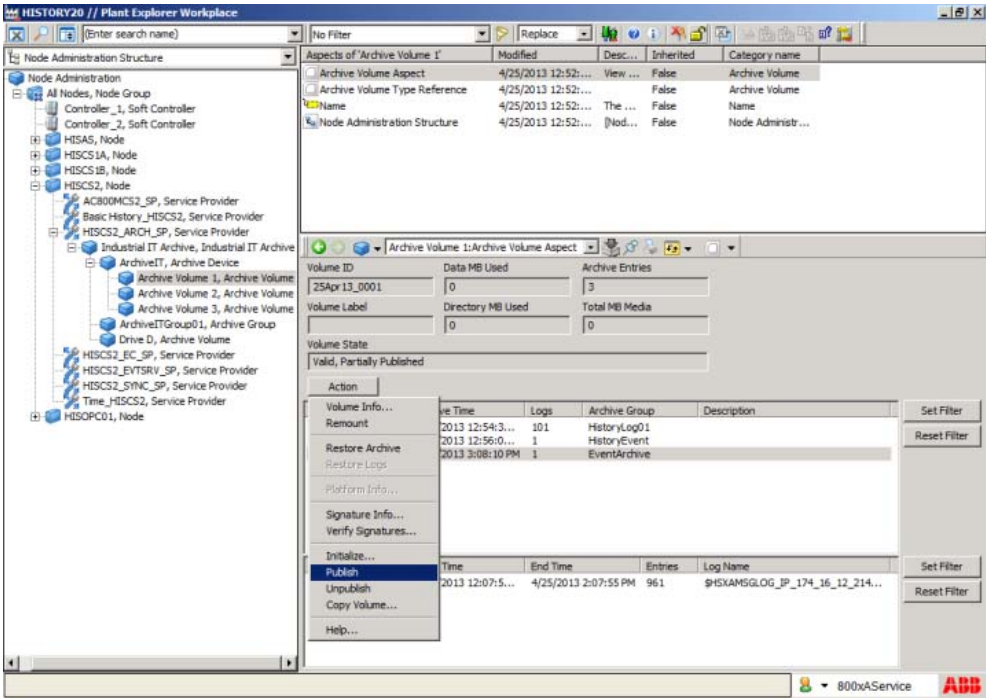

Figure 249. Selecting Publish option
1. Click **Actions** and select **Publish** as shown in Figure 249.